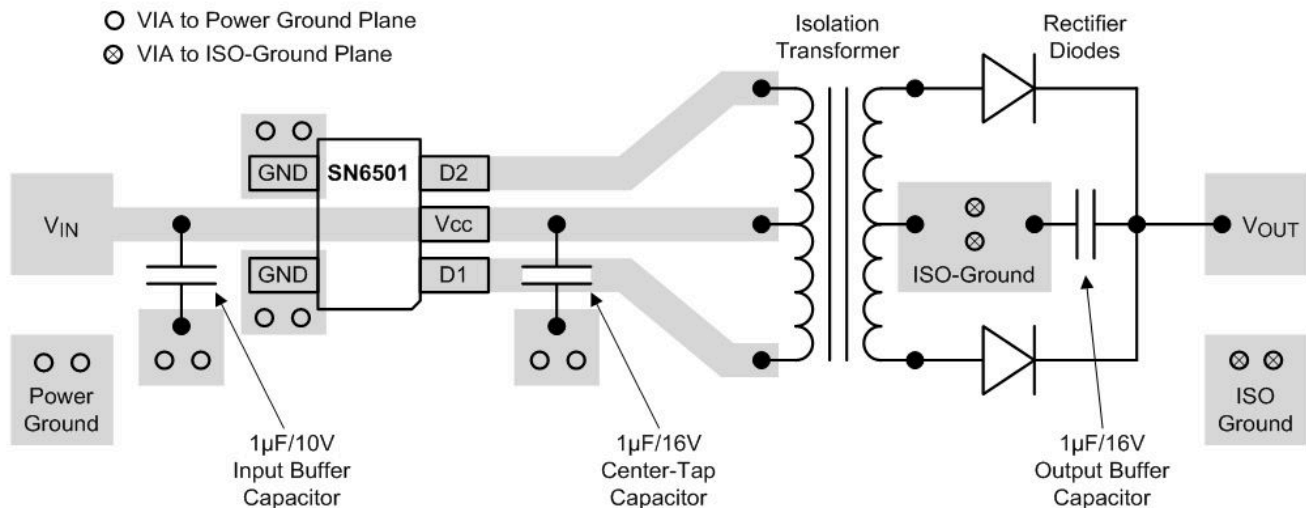

图 10-1. Layout Example of a 2-Layer Board (SN6501)
- The optimum placement is closest to the V_{IN} and GND pins at the board entrance to minimize the loop area formed by the bypass-capacitor connection, the V_{IN} terminal, and the GND pin. See 图 10-1 for a PCB layout example.